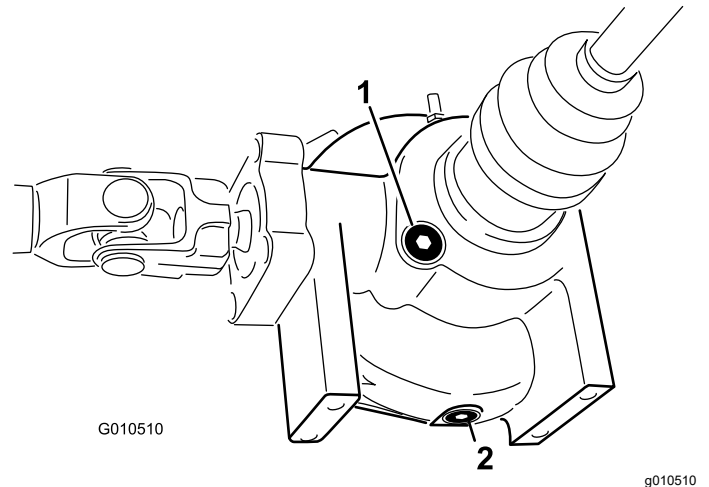

Figure 53
2. Clean the area around the drain plug on the side of the differential (Figure 53).